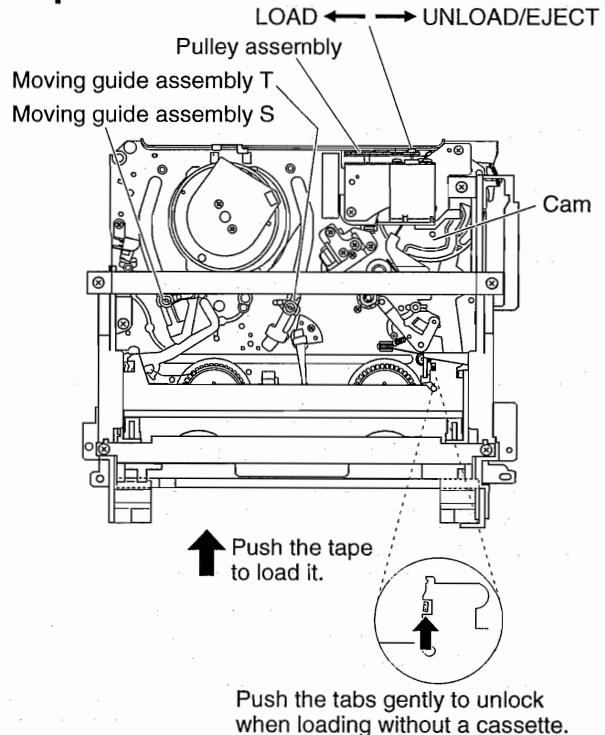
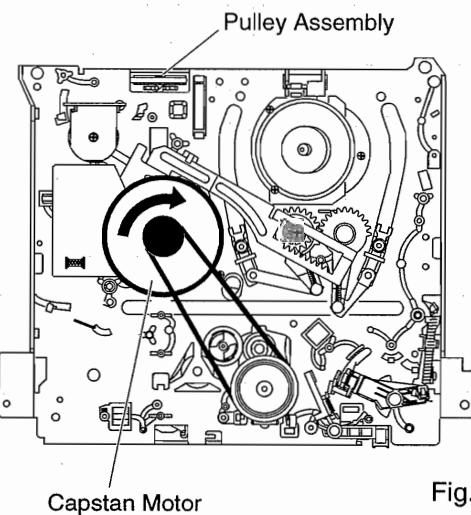

Fig. M1
Fig. M2
4. Turn the Pulley Assembly in the appropriate direction shown in Fig. M1 until the cassette tape is fully loaded. By turning the Pulley Assembly, you are turning the cam indicated in this figure. However, movement of the cam will be very slow. Allow a minute or two to complete this task.
3. Turn the Pulley Assembly in the appropriate direction shown in Fig. M1 to unload the cassette tape. When turning the Pulley Assembly, please be aware that this is a long process and the cassette will not start getting unloaded instantaneously. Within this long process, before the cassette actually starts getting unloaded, there is a time period during which the moving guide assemblies slide back to their original positions shown in Fig. M1. However, the tape will be left wound around the cylinder. To put the tape back into the cassette, gently turn the Capstan Motor in the direction shown in Fig. M2. Make sure that the tape is completely placed back in the cassette before the cassette starts getting unloaded. Otherwise the tape hanging out will be caught and damaged by the lid of the cassette when it closes. By turning the Pulley Assembly, you are turning the cam indicated in Fig. M1. As stated, movement of the cam will be very slow. Allow a minute or two to complete this task.
3. Turn the Pulley Assembly in the appropriate direction shown in Fig. M1. Release the locking tabs shown in Fig. M1 and continue turning the Pulley Assembly until the Cassette Holder comes to the tape-loaded position. Allow a minute or two to complete this task.